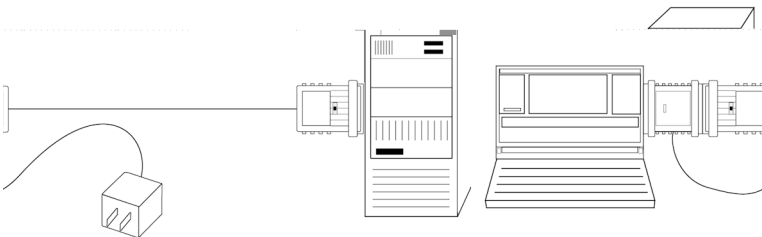

Figure 2. Powering up a Self-Powered Short Haul Modem with a Model 3P-MF
5. Connect the twisted pair line connection between short haul modems as described in the short haul modem user manual (see Figure 2,).